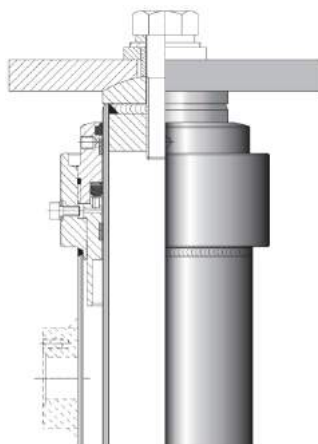
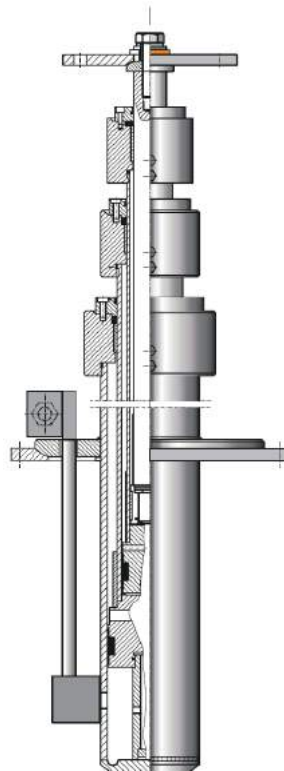

Figure 5 – Head of the direct acting cylinder with spherical joint
Figure 6 – Telescopic cylinder with middle oscillating plate
- The direct side acting cylinder lays directly on the pit bottom. The rod head is equipped with a spherical joint (see Figure 5), which allows the frame to be hooked in a flexible way, without moments. The spherical joint has to be greased before fixing the plate at the frame;
The underground direct central acting cylinders are supplied with an upper plate with a spherical joint (see Figure 5) and with a middle support plate which is articulated in case of telescopic cylinders (see Figure 6). The cylinder part laying under the middle plate is protected by a special anti-corrosive black paint.